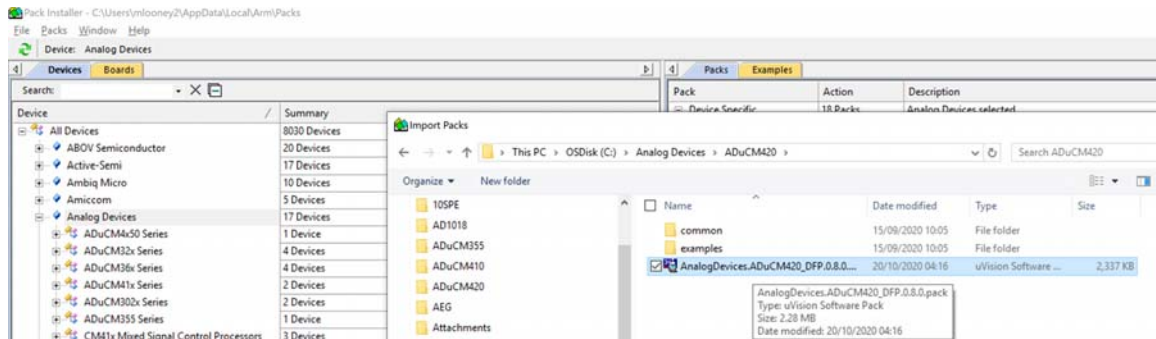

Figure 7. Pack Installer
2. After the CMSIS pack installer opens, click **File > Import**. Select and import the ADuCM420 pack that is included in the installation setup (see Figure 7).